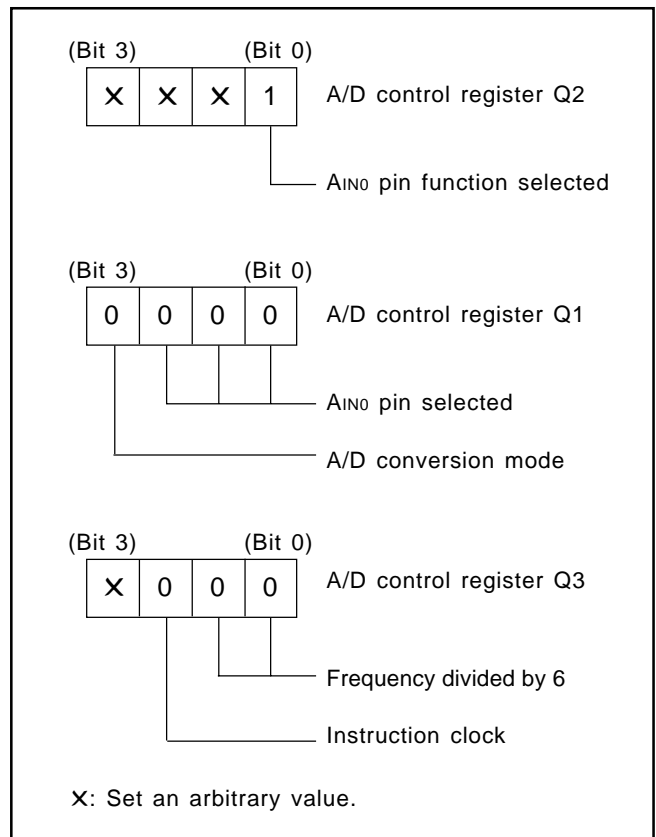

Fig. 39 Setting registers
- ① Select the AIN0 pin function with the bit 0 of the register Q2. Select the AIN0 pin function and A/D conversion mode with the register Q1. Also, the instruction clock divided by 6 is selected with the register Q3. (refer to Figure 39)
- ② Execute the ADST instruction and start A/D conversion.
- ③ Examine the state of ADF flag with the SNZAD instruction to determine the end of A/D conversion.
- ④ Transfer the low-order 2 bits of converted data to the high-order 2 bits of register A (TALA instruction).
- ⑤ Transfer the contents of register A to M(Z, X, Y) = (0, 0, 2).
- ⑥ Transfer the high-order 8 bits of converted data to registers A and B (TABAD instruction).
- ⑦ Transfer the contents of register A to M(Z, X, Y) = (0, 0, 1).
- ⑧ Transfer the contents of register B to register A, and then, store into M(Z, X, Y) = (0, 0, 0).